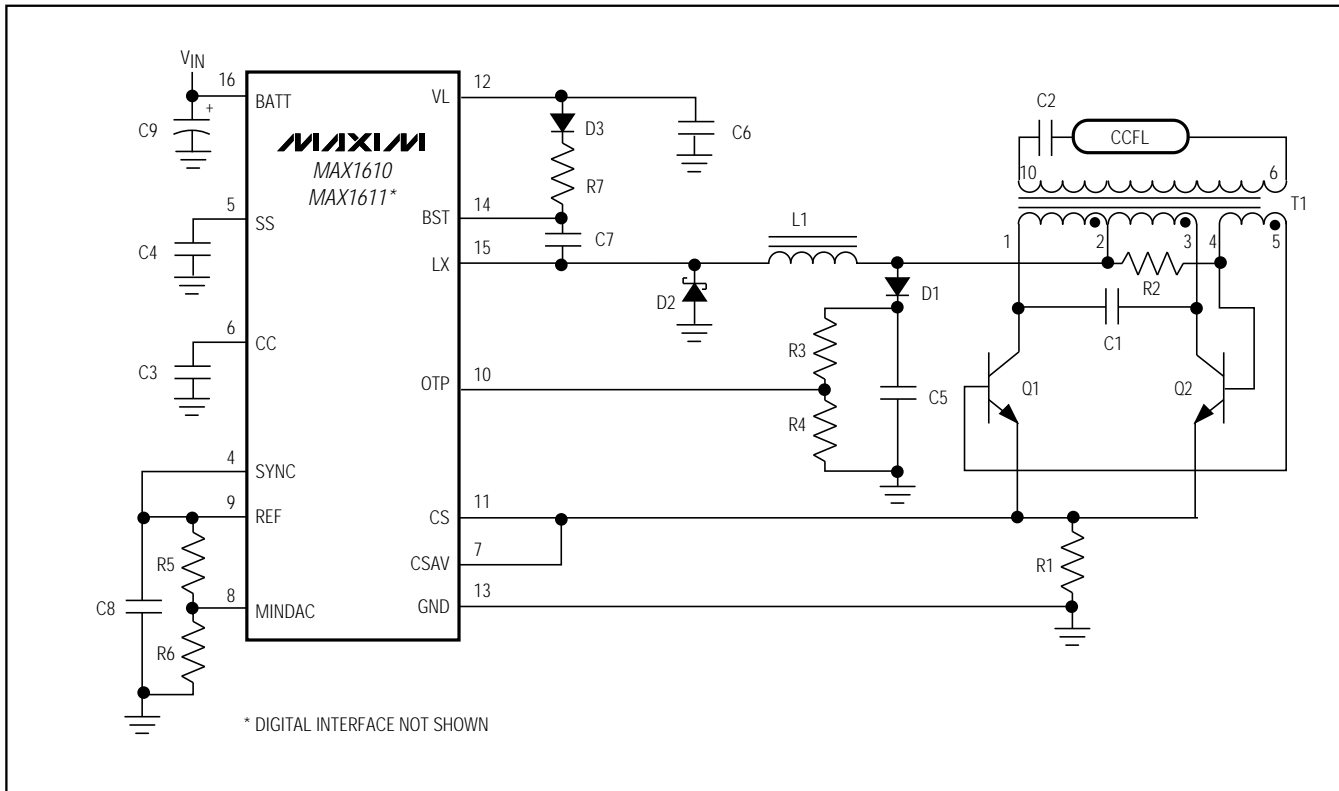
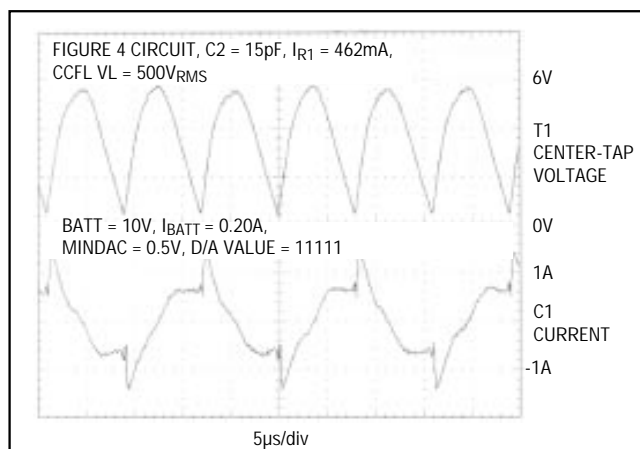

Figure 4. Typical Floating-Lamp Application Circuit
Figure 5. Royer Oscillator Typical Operating Waveforms for Circuit of Figure 4
Table 3 shows the recommended component values to use with the circuit of Figure 4, depending on the particular CCFL parameters. The C2 values in Table 3 have been selected such that the normal operating voltage on the secondary of T1 is as close as possible to the CCFL strike voltage (where the strike voltage ( $V_S$ ) is assumed to be approximately 1.8 times the CCFL operating voltage ( $V_L$ )).
does not exceed its maximum rating, despite T1, C1, and C2 component-value variations. The Royer oscillator waveforms for the circuit of Figure 4 are shown in Figures 5 and 6.
The MINDAC pin sets the lowest CCFL brightness level. The voltage at MINDAC is divided by eight, and sets the minimum CSAV regulation voltage. For example, in the circuit of Figure 4, R5 (150k $\Omega$ ) and R6 (51k $\Omega$ ) form a resistor divider from REF, which sets MINDAC to 507mV (REF = 2.0V). This sets a minimum CSAV regulation voltage of 63mV with a full-scale CSAV regulation voltage of 247mV.
**Table 3. Selecting Circuit Values for Figure 4**
Any real transformer used in a Royer oscillator will have a maximum-allowed secondary voltage. If the maximum-allowed secondary voltage is exceeded, the winding insulation can break down, leading to permanent transformer damage. The maximum-allowed secondary voltage can be exceeded either when the CCFL drive circuit is turned on without the CCFL being in place, or when the CCFL becomes disconnected during normal operation due to a mechanical failure. To protect against these fault conditions, use the OTP pin to sense the voltage on the transformer center tap (pin 2 of Figure 4). Whenever the voltage on OTP exceeds the REF reference voltage, the BATT-to-LX power switch is forced off.
For example, in Figure 4, the CTX110605 transformer has a maximum-allowed continuous secondary voltage of 1340VRMS. D1 and C5 detect the peak voltage on the center tap of T1. R3 and R4 determine the limit on the center tap peak voltage. The relationship between the voltage on the center tap of T1 and the secondary voltage is diagrammed in Figure 8. Neglecting the Q1/Q2 saturation voltage and the voltage on the R1 current-sense resistor yields Equation 1: